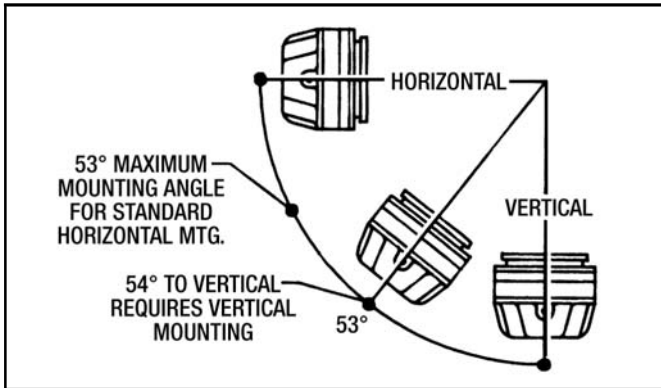

Figure 3.11 - Horizontal/Vertical Mounting Angles
3. Remove Air Breather (#45) and Reducing Bushing (#76) (See Figure 8.1). Install Pipe Plug (#261) (See Figure 3.11).